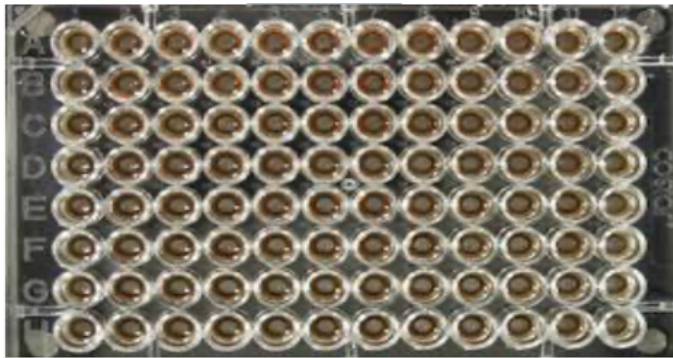

Figure 5: Extraction Plate during wash step on magnetic plate.
10. After the 5 minute incubation, remove as much of the 400  $\mu$ L of the supernatant as possible. Be careful not to disturb or aspirate the beads. See Figure 5.